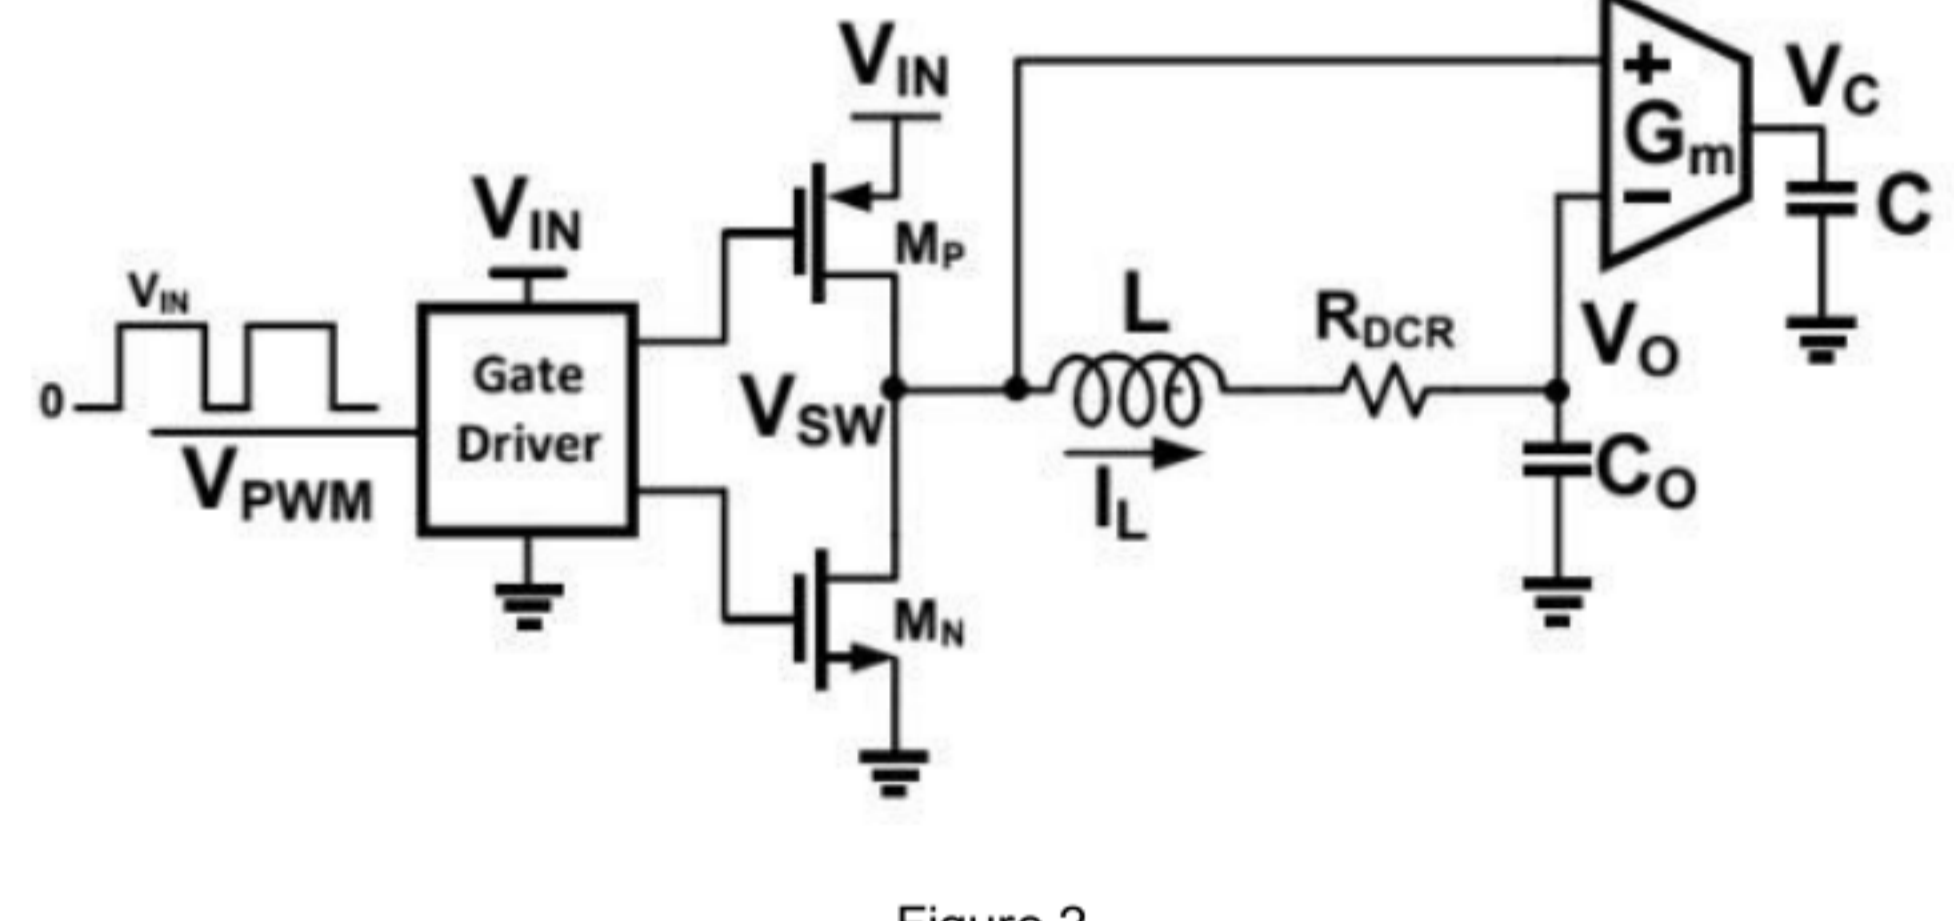

Figure 2
12) Consider the buck converter shown in Figure 2, for question 12. The G_m -C filter in the said buck converter was used to sense the inductor ripple current with the following specifications. $V_{IN} = 2 V$, $V_O = 1 V$, $L = 1 \mu H$, $C_O = 10 \mu F$, switching frequency $F_{SW} = 1 MHz$ and $C = 10 pF$. Assume that the buck converter is ideal and neglect all losses. Adhere to the units mentioned in the question while filling in the numerical answer
Fill in the blank with a numerical answer: The value of the transconductance (in respect of the circuit shown in Figure 2) for which the ripple amplitude of the G_m -C current sensor output voltage (V_C) has the same amplitude as the inductor ripple current (ΔI_L) is $G_m = \underline{\hspace{2cm}}$ μS (up to 1 decimal place).